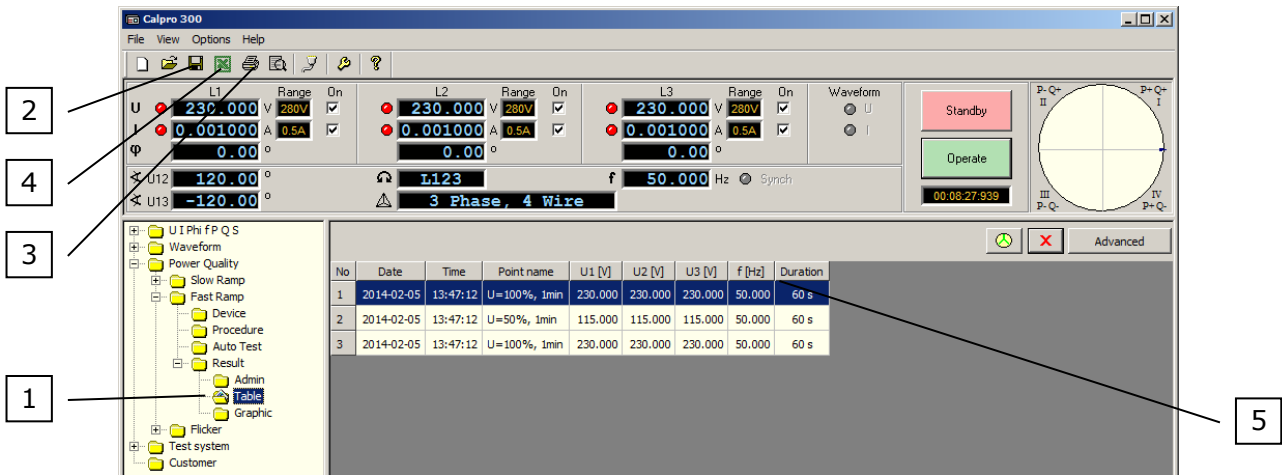
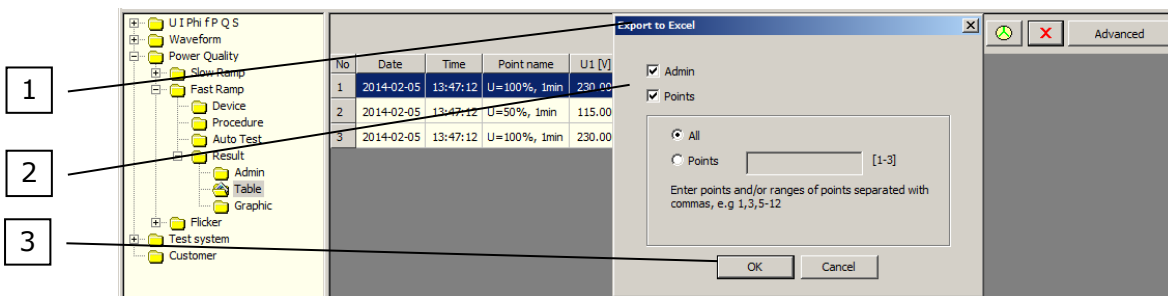
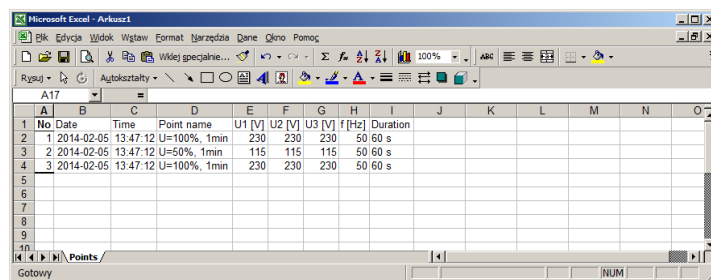

Fig.3.7. Table function with parameters of measurement points
Fig.3.8. Table function with *Export to Excel* window
Fig.3.9. MS Excel program with exported parameters of measurement points
To view a table with parameters of measurement points (Fig.3.7) the user have to press the *Table* of the *Power Quality* / *Fast Ramp* / *Result* function (pos.1). After that the user can save to the file (pos.2), print (pos.3) or export to the *MS Excel* test parameters (pos.4).
To export data to *MS Excel* program the user have to press the *Export to Excel* button (pos.4 Fig.3.7). After that appear *Export to Excel* window (pos.1 Fig.3.8) with fields to set the parameters of a data to export (pos.2 Fig.3.8). When the user confirm changes by the *OK* button (pos.3 Fig.3.8) then a *MS Excel* program run with exported test parameters (Fig.3.9).